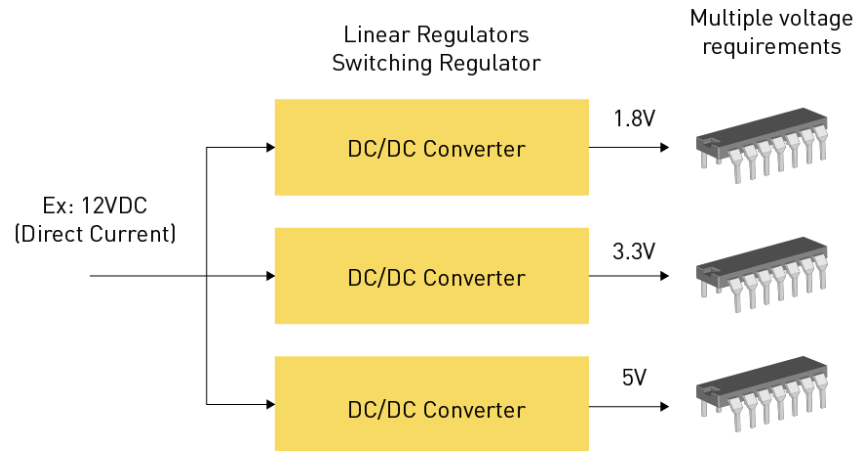

Figure 1: DC/DC converters
DC/DC converters are essential components in many electronic systems, responsible for converting one level of direct current (DC) voltage to another. They are used to regulate and stabilize voltage levels in various electronic systems, ensuring that components receive the appropriate designated voltage for optimal performance and safety as depicted in Figure 1. They play a crucial role in multiple applications such as power supplies, battery chargers, electric vehicles, and renewable energy systems. This article discusses DC/DC converters, their common types, basic operation principles, key parameters, and practical applications.